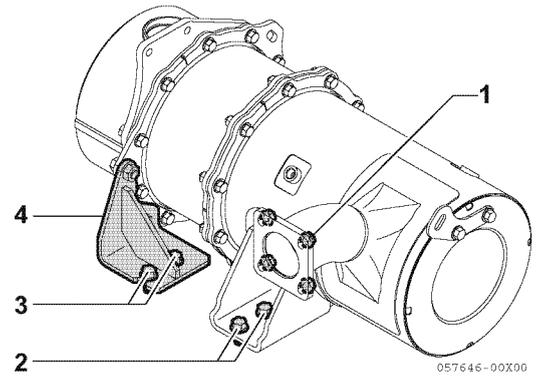

Figure 13-20
- Remove the 4 M8 flange nuts (1 Figure 13-20) on the exhaust manifold flange.
- Remove the M10 flange bolts (2 pcs. each, total 4 pcs.) (2, 3, Figure 13-20) that affix the stays (2 locations) (on the back of the DPF housing), that themselves affixes the DPF.